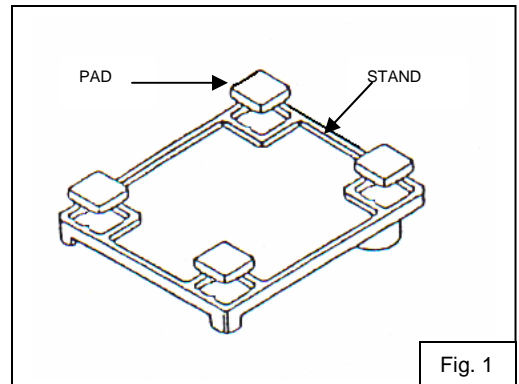

Fig. 1
2. Place the Stand with the bottom side up. Remove paper backing from the four Pads and install at bottom corners of Stand as shown. Refer to Figure 1.